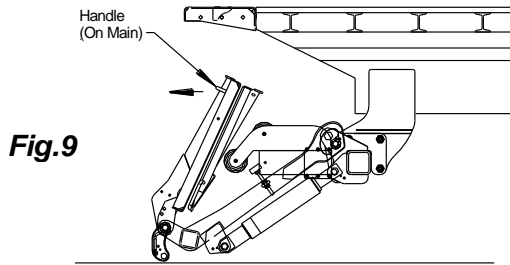
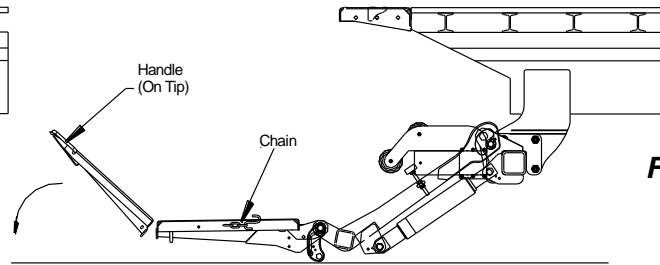

Fig.9
Fig.10
- Use the handle on the main to manually pull the platform away from the wheels down to the ground, **Fig.9**. Unhook the safety chain/strap on the side of the platform that secures the main section to the tip. Use the handle on the tip section to manually unfold the tip, **Fig.10**. For aluminum platform, unhook the strap, and use the strap to unfold the platform tip manually.